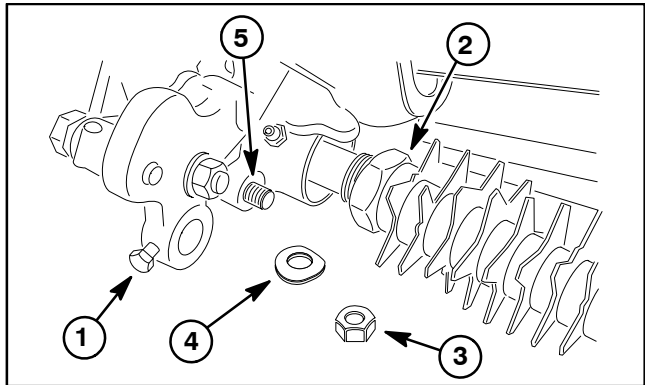

Figure 20
B. Remove lock nut and spring washer that secure LH groomer arm lift rod to support plate (Fig. 20). Remove support plate from cutting unit.
C. Place spring washer and lock nut on lift rod threads (Fig. 20). Tighten lock nut.